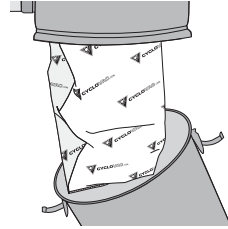

figure 14
1. To access the bag, unlatch the two clips and remove the dust receptacle (**figure 14**).